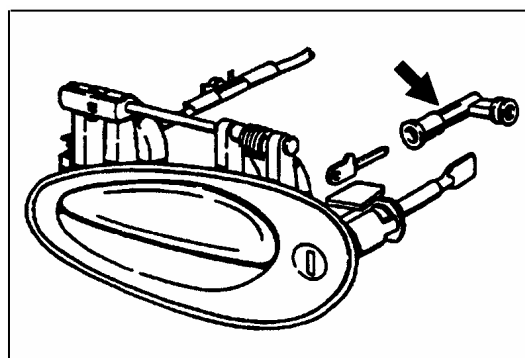

Figure 2
- 5 Disengage the connecting piece between the door lock and outer door handle (Fig. 2, arrow).
- 8.2 Remove the connecting piece (Fig. 2) at the actuating lever of the door lock and install a new connecting piece.